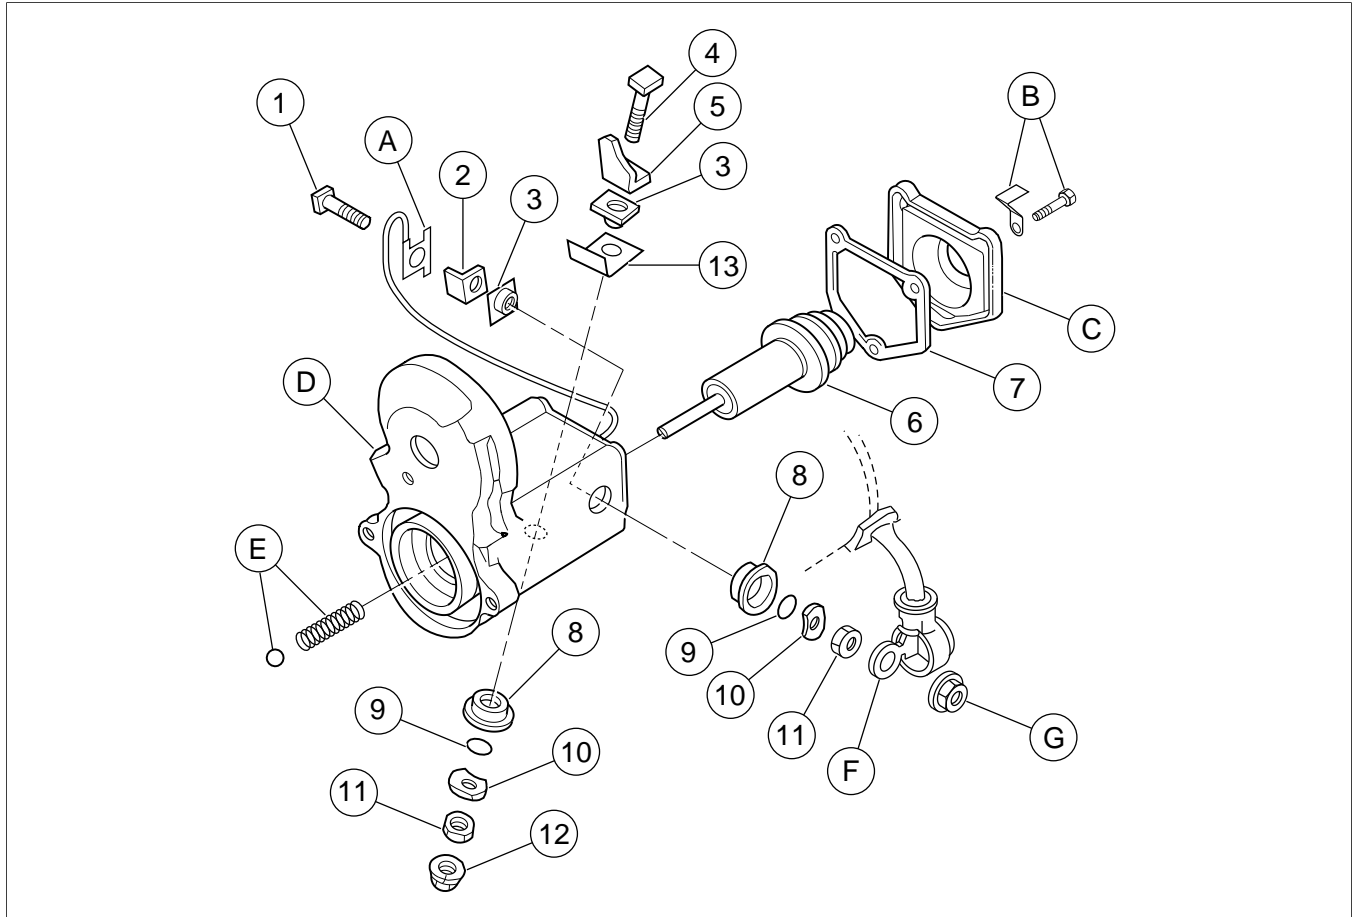

Figure 3. Service Parts: Starter Solenoid Rebuild Kit
See Figure 3 and Table 1.
1. See Figure 3. From inside of solenoid housing, insert center ferrule of square bushing (3) through field terminal bolt hole.
2. Position contact plate (2) between bushing and hold-in winding terminal with holes aligned.
1. See Figure 3. Place contact plate (5) over slightly open jaws of a vise with hole side flat and leg upward.
1. See Figure 3. Place original return spring over new plunger (6). Insert plunger into opening in solenoid housing, spring end first. Be sure spring is seated all the way into the guide hole.
2. While holding pressure inward on the plunger, tighten nuts (11) on terminals to 65-80 **in-lbs** (7.3-9.0 Nm). This will ensure alignment of contact plates (2 and 5) to plunger washer.
3. Place new gasket (7) in solenoid cover.
5. Place field wire terminal (F) over copper bolt (1). Thread on hex nut removed earlier and tighten to 65-80 **in-lbs** (7.3-9.0 Nm). Place boot over terminal.